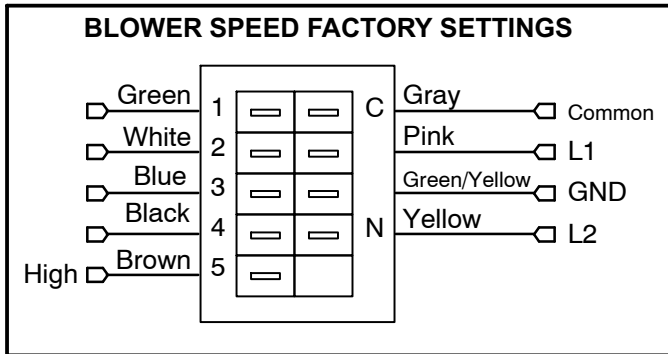

FIGURE 9
3. Use figure 9 to determine the factory-set blower speed.